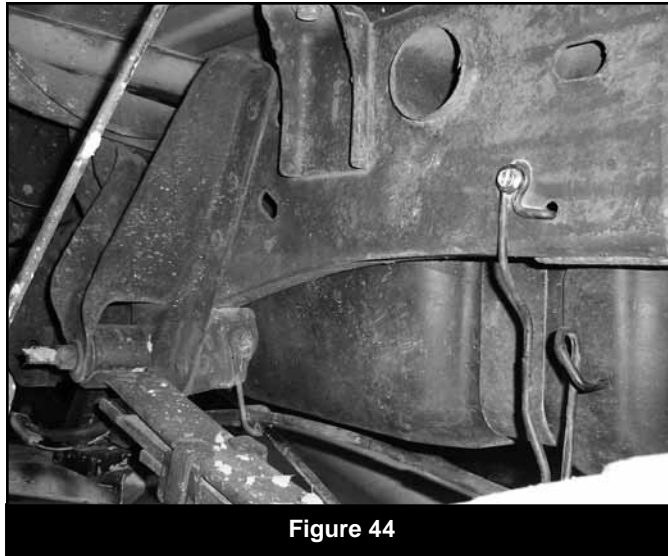

Figure 44
3. Disconnect the parking brake cable brackets (2) from the driver's side frame rail (Fig 44) Save all hardware.